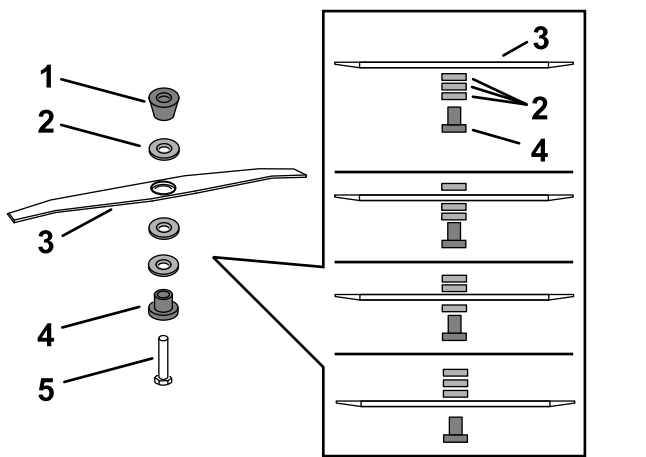

Figure 29
5. Use the wrench provided with the machine to remove the blade by rotating the blade bolt counterclockwise (Figure 29).